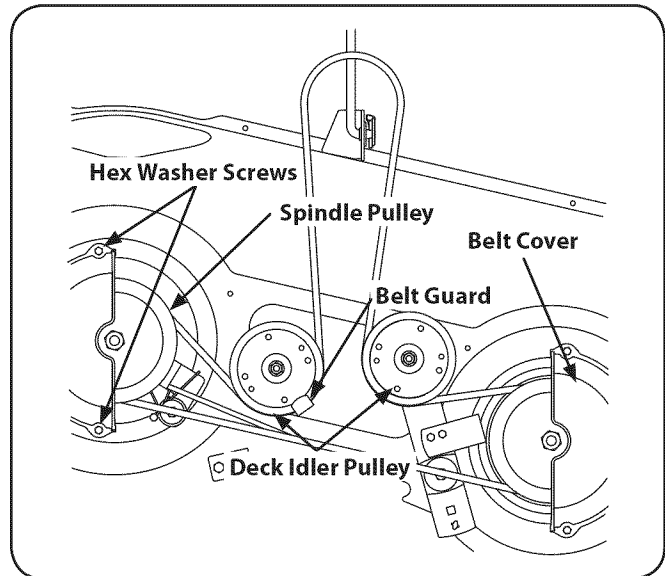

Figure 7-9
2. Remove the belt covers by removing the hex screws that fasten them to the deck. See Figure 7-9.
4. Carefully remove the deck belt from around the two spindle pulleys and the two deck idler pulleys. See Figure 7-9.
5. To place the new belt, begin by routing the belt around the two outer spindle pulleys as shown in Figure 7-9.
6. Then route the belt around the two deck idler pulleys as shown in Figure 7-9.